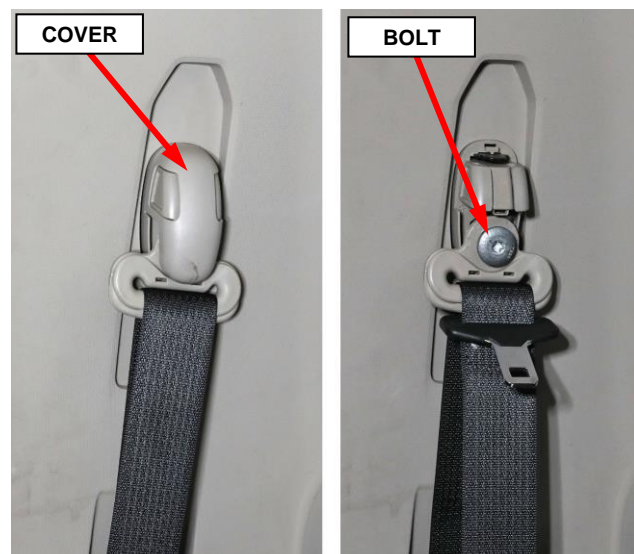

Figure 4 – Seat Belt Turning Loop
6. Separate the seatbelt turning loop cover then remove the turning loop bolt (Figure 4).